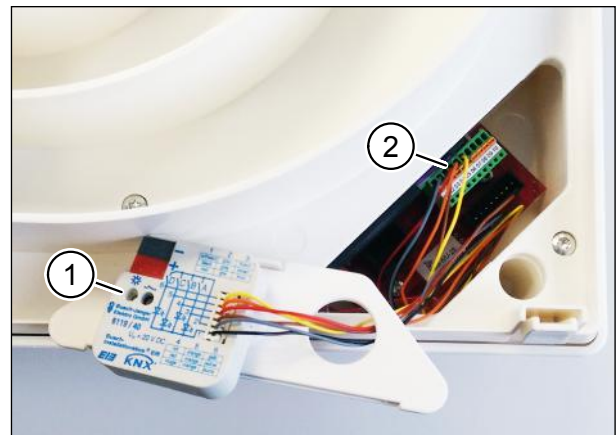

Fig. 9: Connecting the EIB universal interface to the board
- ▶ Connect the EIB universal interface 6119/40 (item 1 in Fig. 9) to the board of the ventilation unit (item 2 in Fig. 9).